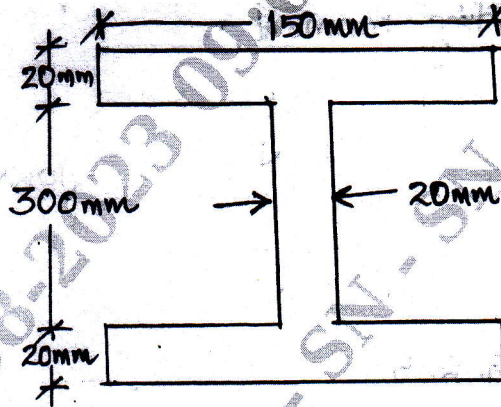

Fig Q10(b)
- b. Draw the shear stress variation diagram across the depth for a beam section shown in Fig Q10(b), if the shear force at section is 60kN.